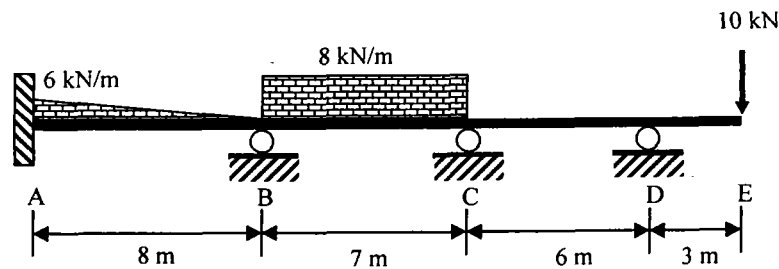

Figure 4 / Rajah 4
3. (a) Figure 4 shows a beam carrying a triangular load of  $6\text{ kN/m}$  and a uniformly distributed load of  $8\text{ kN/m}$  on span AB and BC, respectively. Support A is fixed and support B, C and D are rollers. Using **moment distribution method**, calculate internal moments at all supports of the beam. Assume value of  $EI$  is constant and neglect axial deformation. Hence, sketch the deflected shape and bending moment diagram of the beam.
- (b) If point E for the continuous beam in Figure 4 is fixed, sketch new bending moment diagram and deflected shape of the beam.